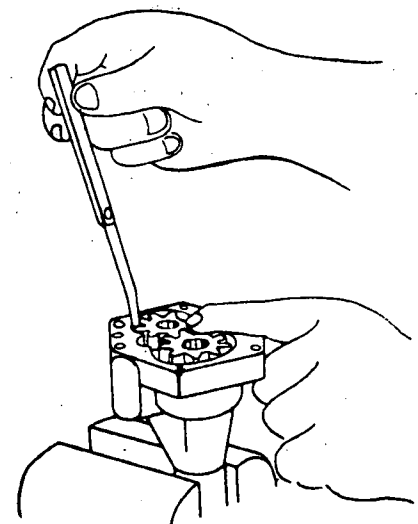

Fig. 2
- b) Check the tolerance between the gear wheel teeth and the body (fig. 2).